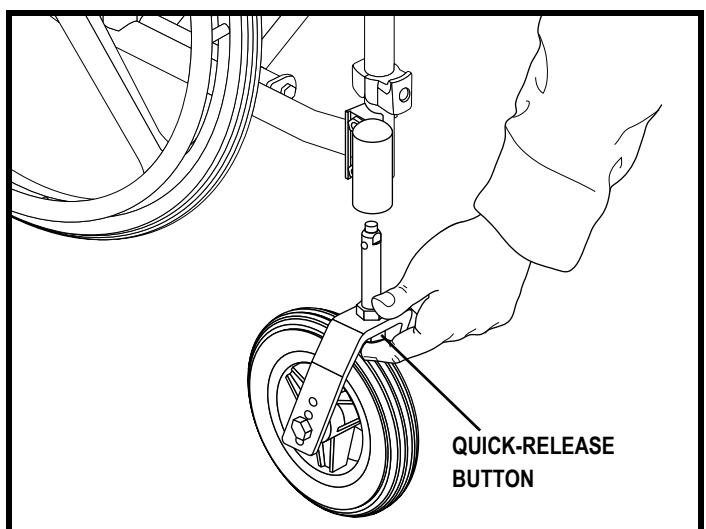

Figure 34. Quick-release Caster Removal
1. Remove the hardware that attaches the caster wheel to the frame of your wheelchair. See figure 34.
1. Press the quick-release button and pull the caster wheel off. See figure 34.